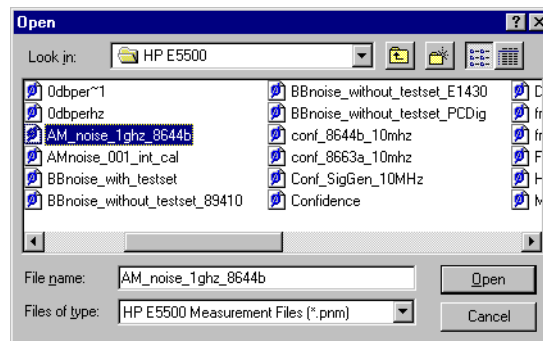

Figure 13-2 Select the Parameters Definition File
- 3 In the **File Name** box, choose “**AM_noise_1ghz_8644b.pnm**.” See Figure 13-2.